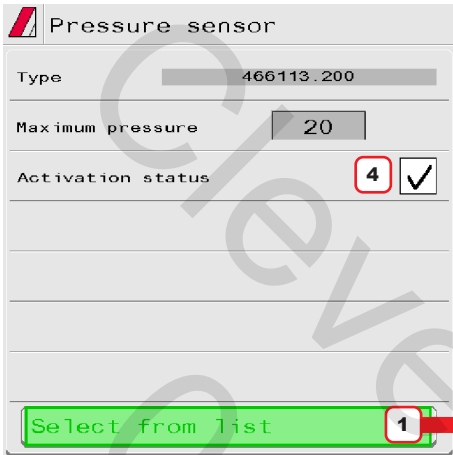

Fig. 42
- The relevant configuration data will be automatically loaded (Fig. 42).